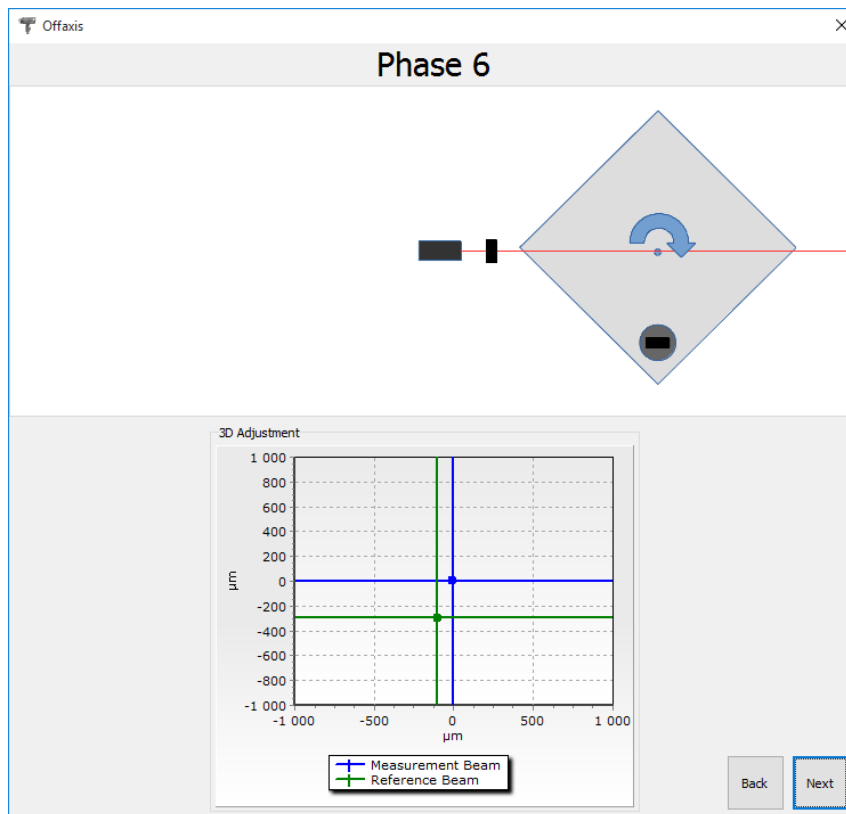

FIG.14.22. PHASE 6 OF THE OFF-AXIS PATH GENERATION
- 6) **Phase 6** - machine is to be rotated in the measured axis by -90 degrees (figure 14.22)